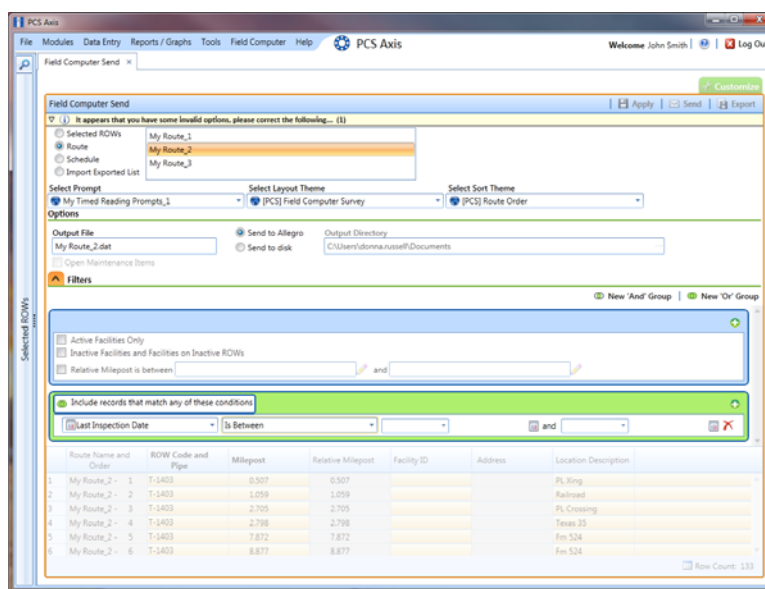

Figure 7-26. New 'Or Filter Group
- 25** To filter records in the grid and in the route sent to the Allegro based on a subset of records that meet *any* filter condition, complete the following steps to add a new OR filter group (Figure 7-26):